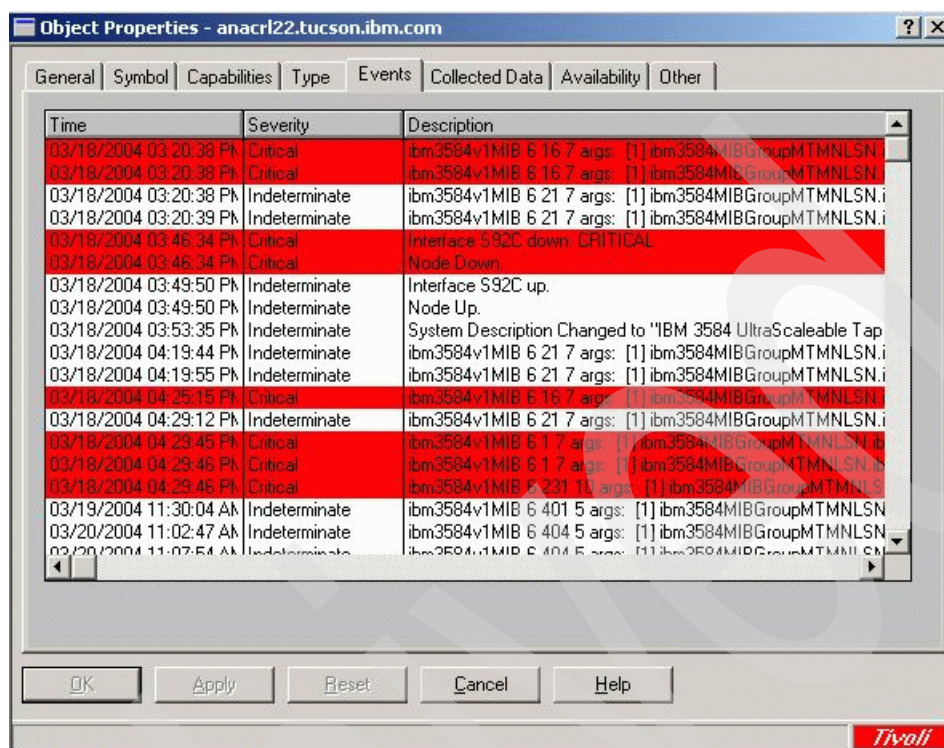

Figure A-20 NetView - SNMP Traps
- By choosing the properties of one object (one library) and selecting the event tap, you can see all SNMP traps received by NetView (see Figure A-20).